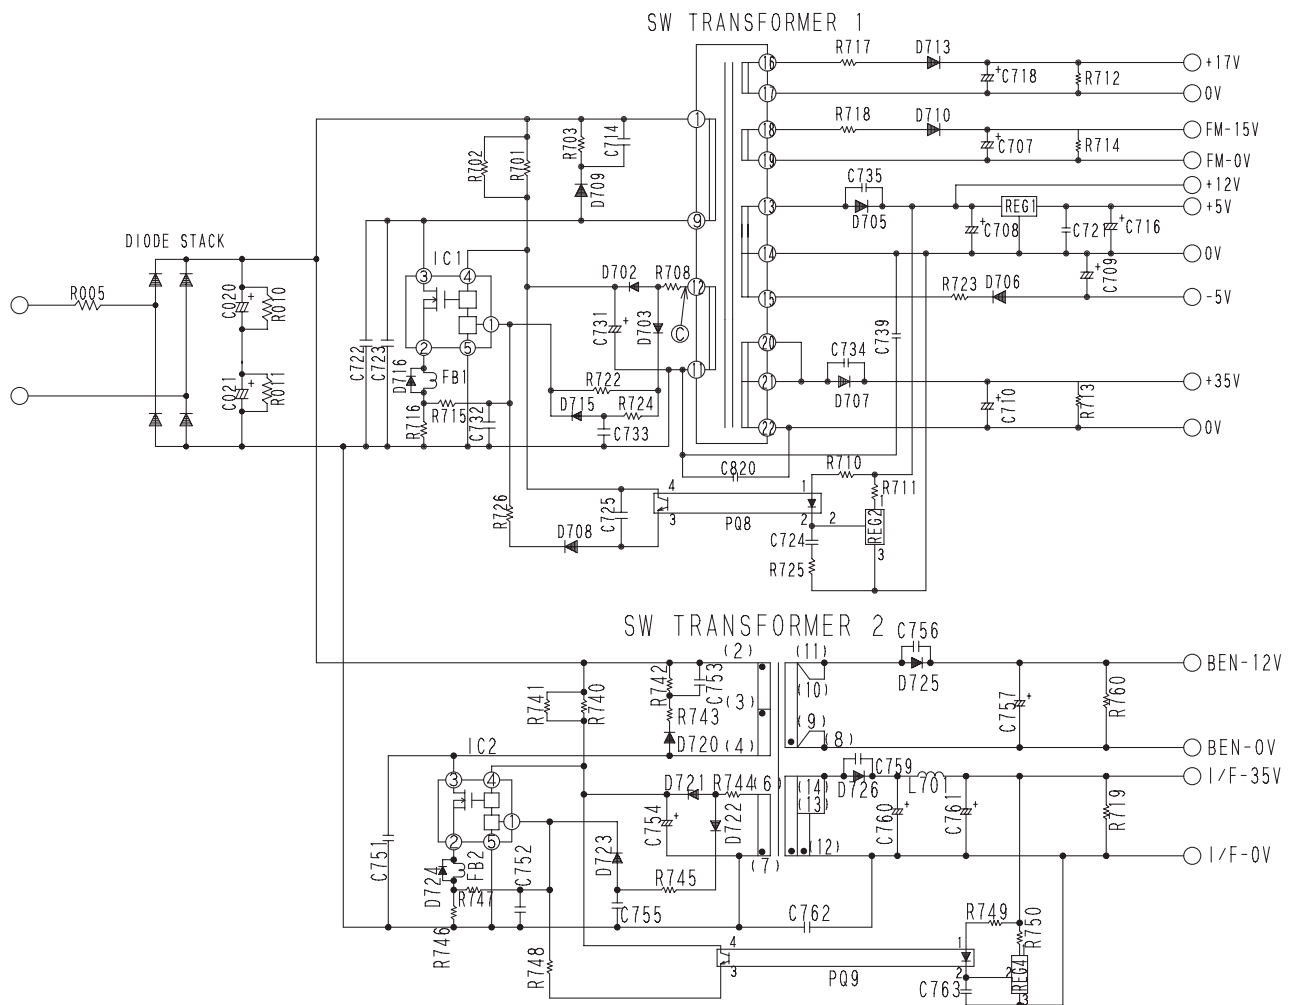

Fig. 4-1 Power circuit for P.W.B.
- Fig. 4-1 shows the power circuit.